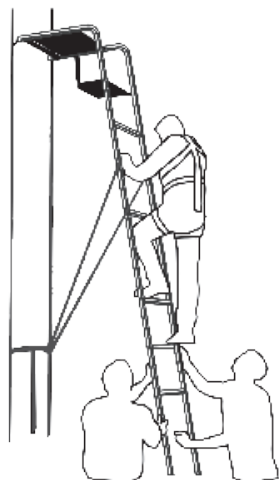

Figure 33
STEP 8: NOTE: Never climb a stand which does not have the stabilizing straps properly installed as instructed herein and pulled tight. With the stabilizer straps installed and secured as outlined herein, with the assistance of two (2) other adults as shown in Figure 33 to steady the treestand, you may climb the treestand to install the seat assembly ratchet strap. Maintain three (3) points of contact when climbing. Never lean backwards while climbing as this could cause the treestand to separate from the tree. Make certain to remain in the center of the treestand until the platform/tree blade ratchet strap has been installed.